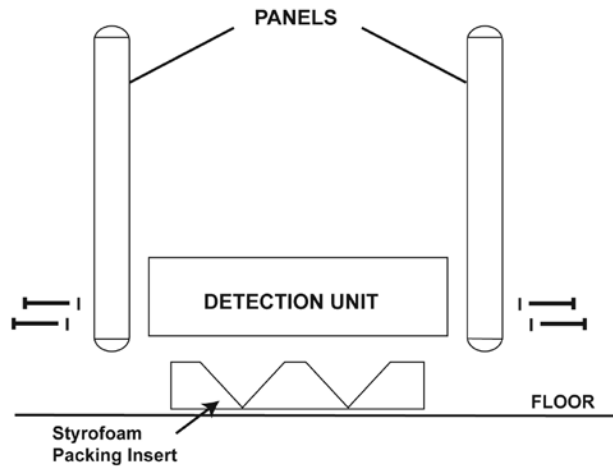

Figure 2-2
- Place the packing insert on floor as shown in Figure 2-2. Lay detection unit (with touchpad panel facing down) on packing insert. Connect detection unit to panels A and B using four screws and finishing washers. Do not tighten!